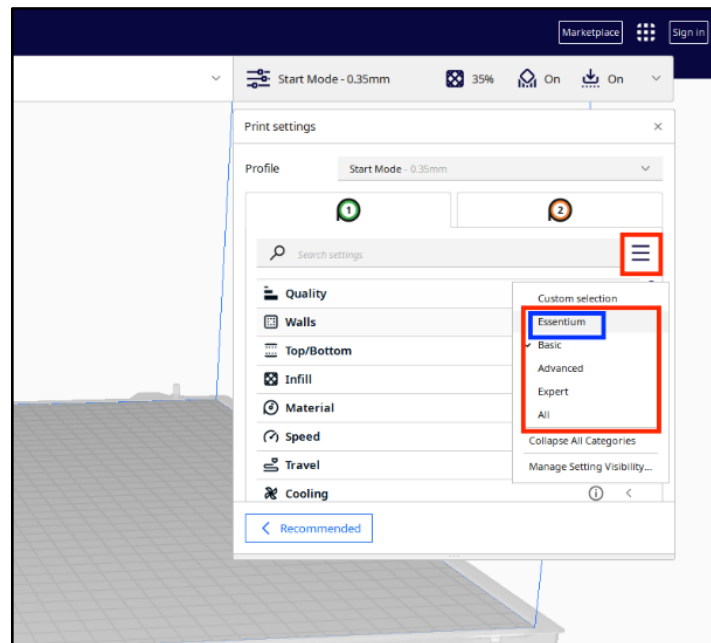

Figure 13: Modifying Settings
20. Select settings visibility. Essentium has a custom option for which settings are visible at the right-hand panel, showing the settings that are most often modified in Cura for HSE printers (See Figure 13).